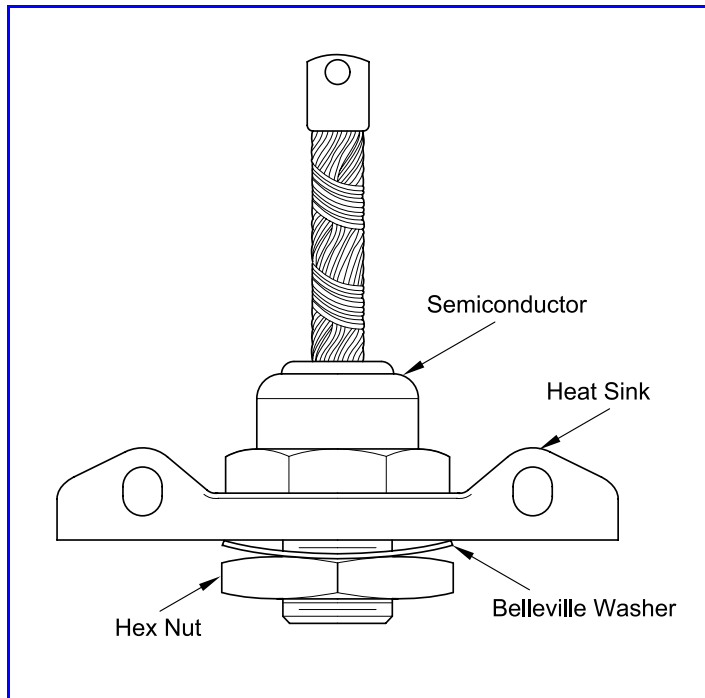

Figure 38 Typical Diode and Stud Mounted SCR
2. Remove hex nut and Belleville washer from diode (SCR) base and remove diode (SCR) from heat sink. See **Figure 38**.